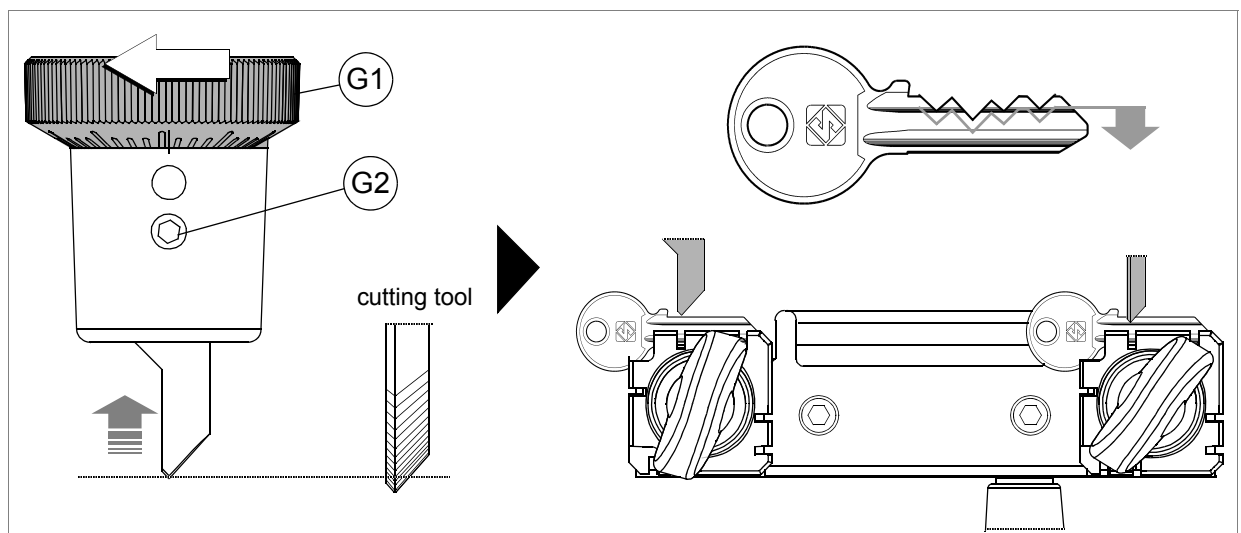

Fig. 19
c) turn the ring nut (G1) anticlockwise to return (fig. 19).